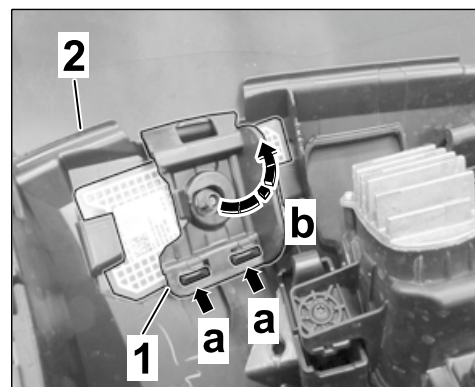

Figure 25
5.7.3 Open the locks ⇒ *Figure 25-1-* (⇒ *Figure 25 -arrow a-*).
Swivel cover on holder up ⇒ *Figure 25 -arrow b-*.
Remove mobile communication antenna (film antenna) ⇒ *Figure 25 -2-* from holder (left/right air guide).